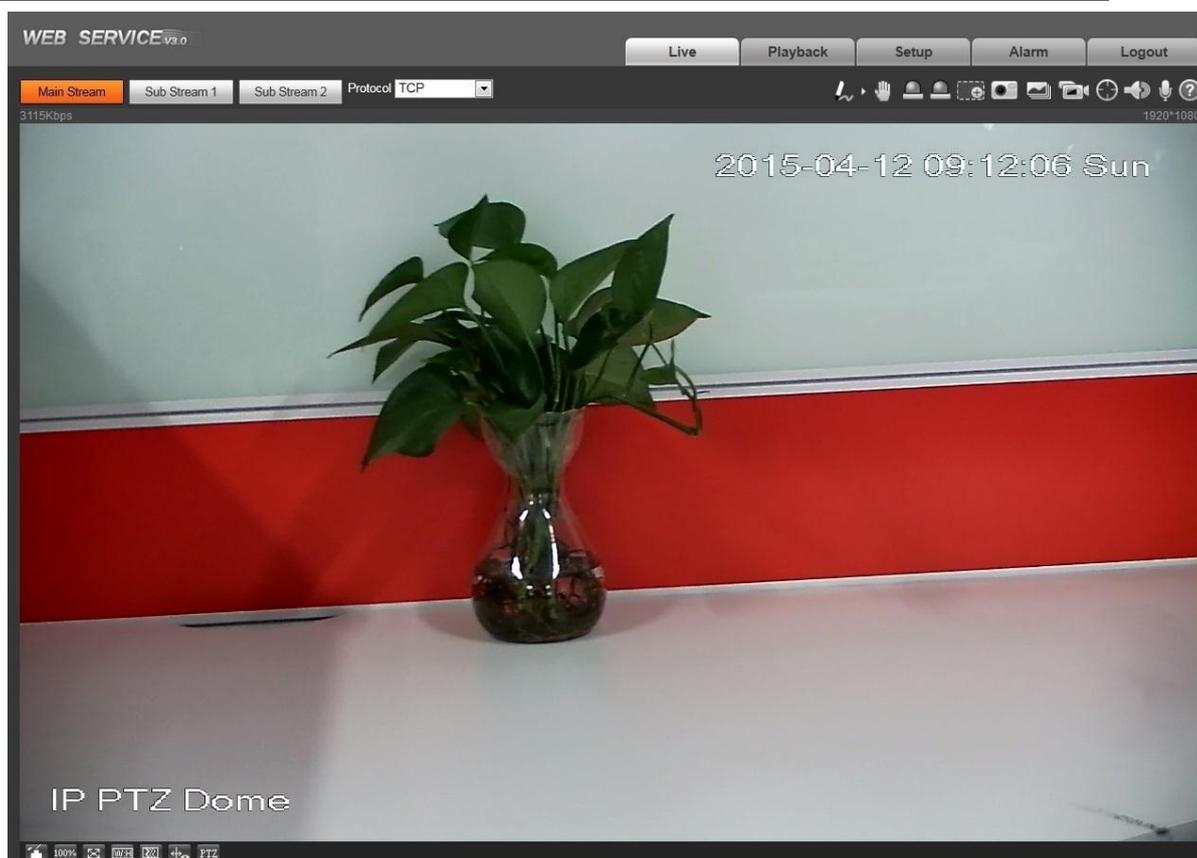

Figure 4-6
- Step 4 You will see the interface shown in Figure 4-6 after WEB login is successful.